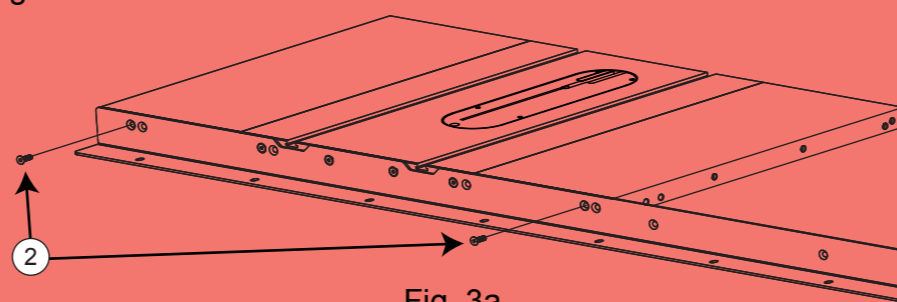

Fig. 3a
• Take two M8 x 25 countersunk socket head bolts (2) and insert one bolt through the corresponding hole in the end of each extension wing (see Fig. 3a). Place an M8 washer (3), an M8 lock washer (4), and an M8 hex nut (5) on the threaded end of each of the bolts (see Fig. 3b). Hand tighten the nuts; do not fully tighten them.